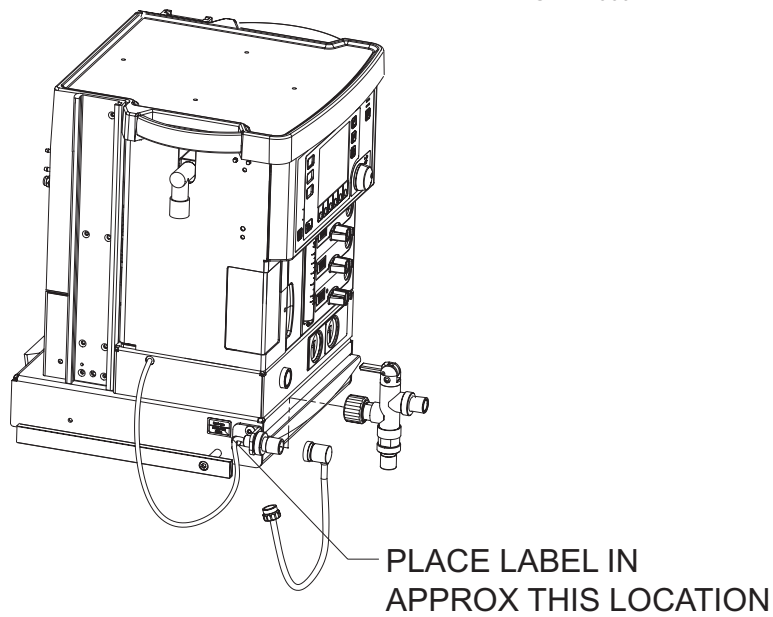

FIGURE 8. Left Side Wall Mount Label Installation
4.1.3.1 Apply the label to the left side of the Fabius TIRO as shown in FIGURE 8.